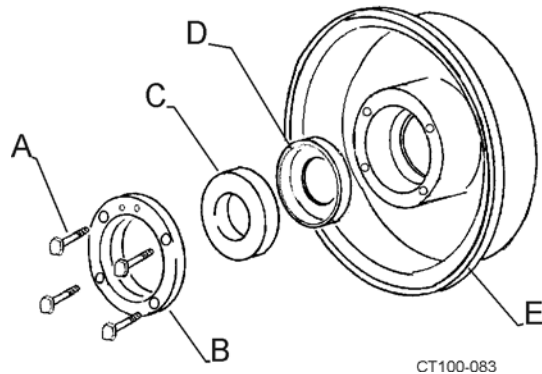

Figure 5 - Removing Stationary Seal
- Remove four 1/4" hex bolts and stationary seat retainer ring. (Figure 5, items A and B).
- Pull the stationary seal and L-gasket out of backplate. (Figure 5, items C and D).